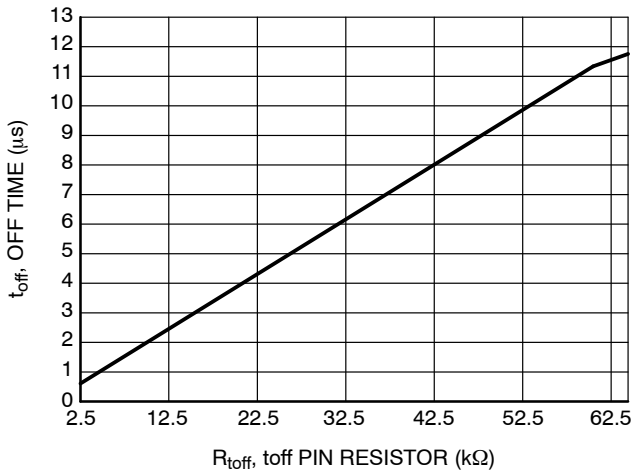

Figure 17. Off Time vs. toff Pin Resistor
5. See Figure 17.
To set  $t_{off}$ , the following calculation is used based on the on the approximation of the linear region of the  $t_{off}$  vs.  $R_{toff}$  transfer function as shown in Figure 17: